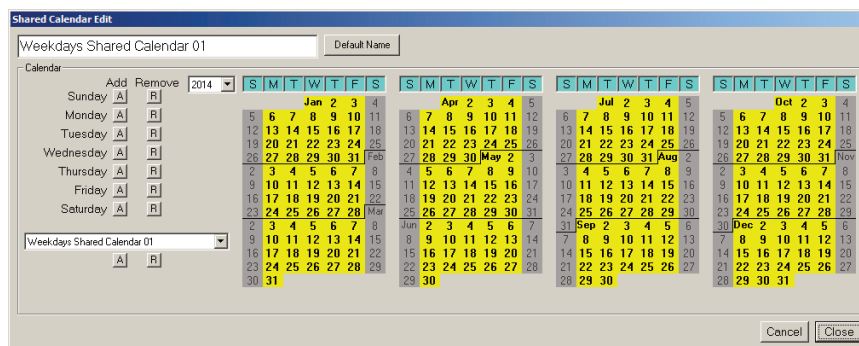

Figure 2.19 Shared Calendar
2. Select an unused Shared Calendar as shown in figure 2.19, and then press Edit.